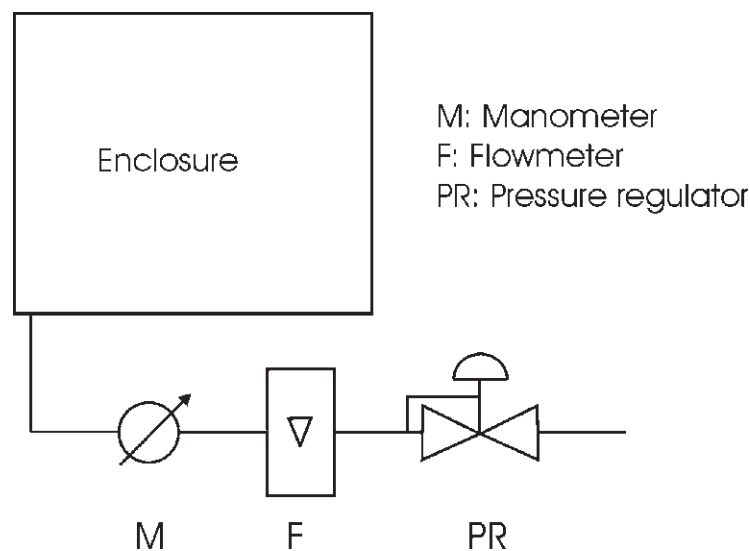

Fig. 4-1
- Connect an external source of compressed air as described in the drawing on the next page (fig. 4-1).